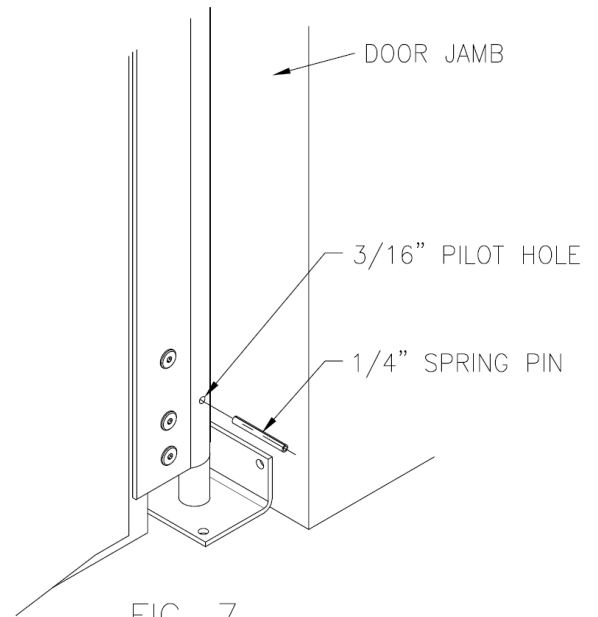

FIG. 7
- Insert spring pin by tapping with hammer (Fig.7).